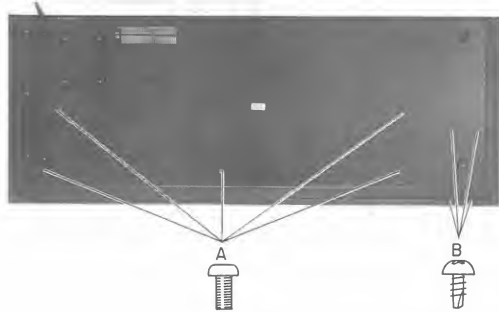

Fig. 2-3
2-2. How to dismantle the Keyboard Block and bend Panel Block. (Refer to Fig 2-3)
- 1) Remove the screws in group A (5 screws) for the Keyboard Block, and the screws in group B (4 screws) for the Bend Panel Block (Refer to Fig. 2-3)